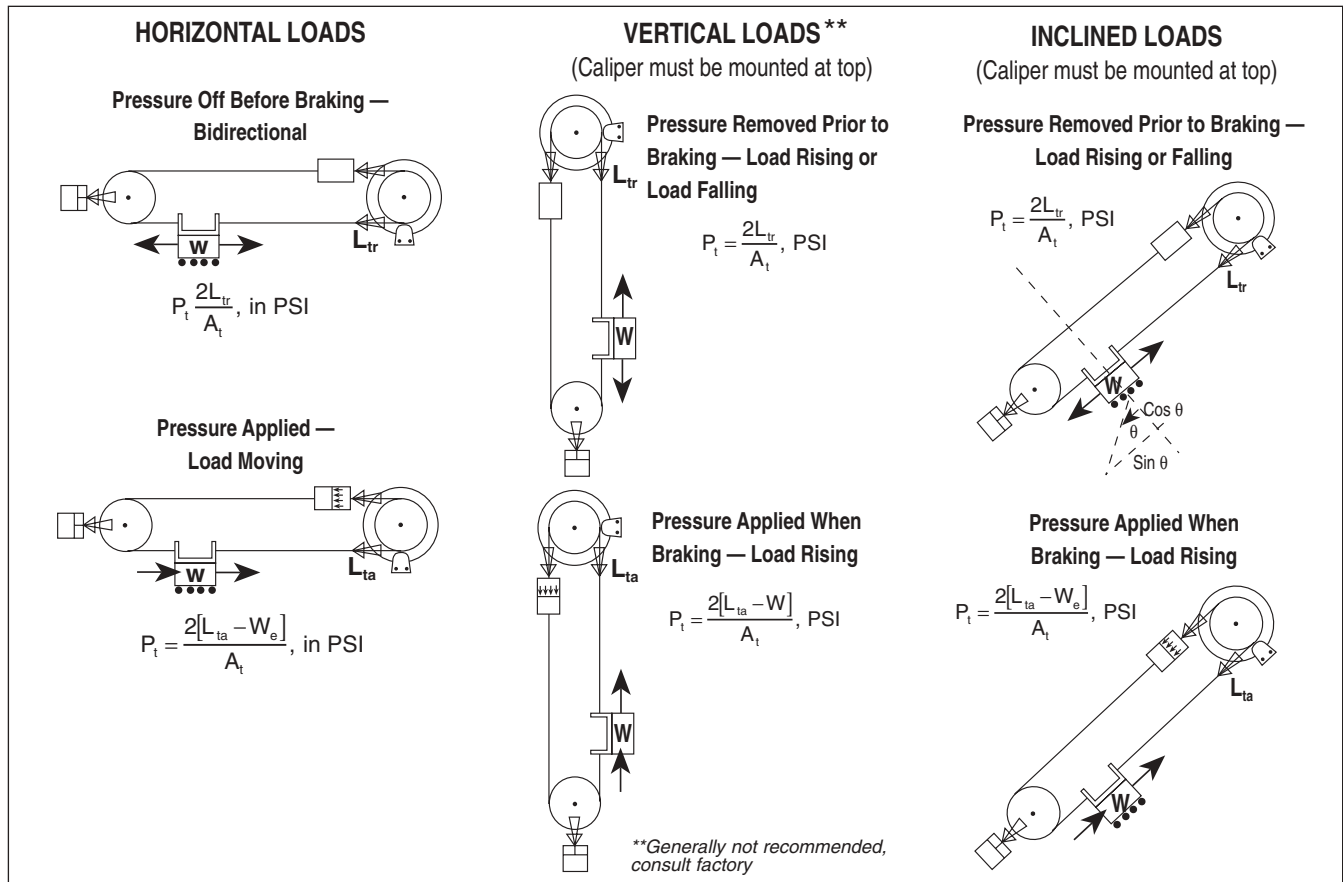

Figure 1.
3. Calculate the tangential braking force required. This is (F_{tr}) when pressure is removed prior to braking, or (F_{ta}) when pressure is still applied when braking. Refer to illustrations in Figure 1.
5. Calculate tensioner pressure setting (Figure 1.) based on type of load configuration where: